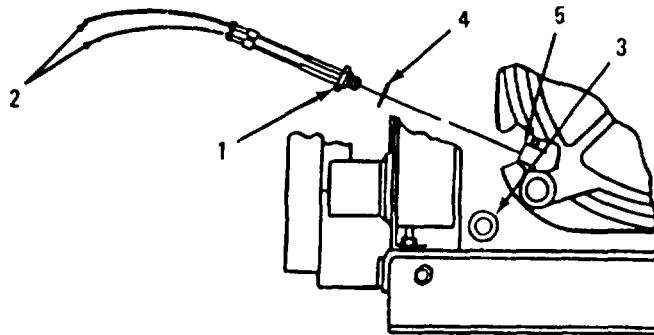

Figure 4-17. Crankcase Oil Heater
- a. Inspection/Test. (Refer to Figure 4-17)
- (1) Inspect the immersion heater (1) for damage. Replace if damaged.
- (2) With the electrical source disconnected. Test the immersion heater (1) for continuity. Replace if damaged.